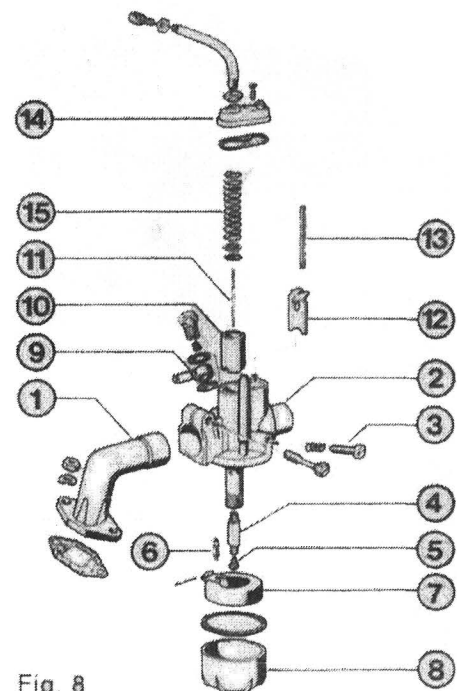

Fig. 8
- 9) Unscrew the main jet (figure 8/5) being screwed in the needle jet (figure 8/4) and clean by blowing through or by using a stiff bristle. Never use a piece of wire. Also, unscrew needle jet and clean.
- 10) Clean the float chamber (figure 8/8) with gasoline.
Exploded view of the carburetor (see fig. 8)